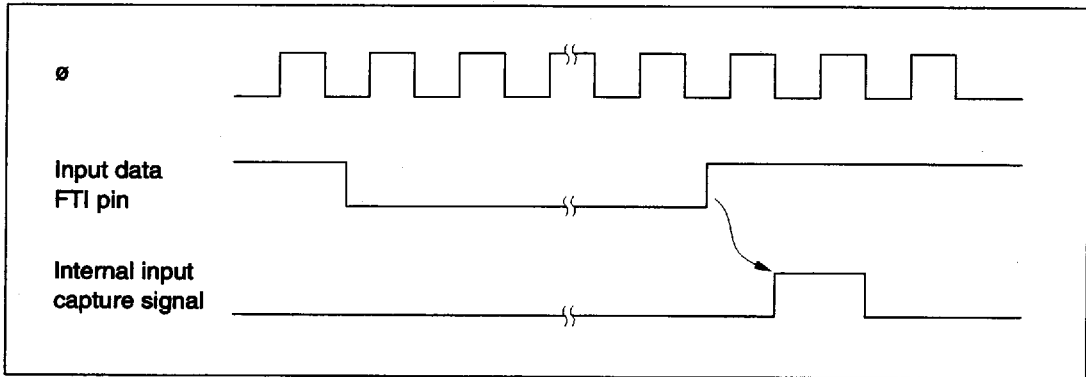

Figure 8-8 Input Capture Timing (Usual Case)
(1) **Input Capture Timing:** An internal input capture signal is generated from the rising or falling edge of the signal at the input capture pin FTI_x (x = A, B, C, D), as selected by the corresponding IEDG_x bit in TCR. Figure 8-8 shows the usual input capture timing when the rising edge is selected (IEDG_x = 1).